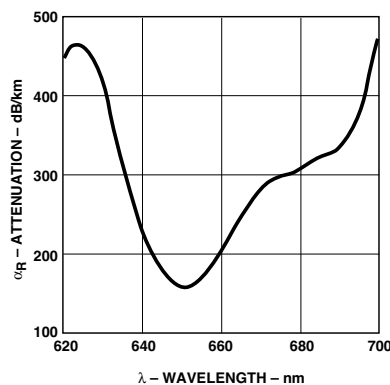

Figure 1. Typical POF attenuation vs. wavelength.
7. Note that α_R rises at the rate of about 0.0067 dB/°C, where the thermal rise refers to the LED temperature changes above 25°C. Please refer to Figure 1 which shows the typical plastic optical fiber attenuation versus wavelength at 25°C.